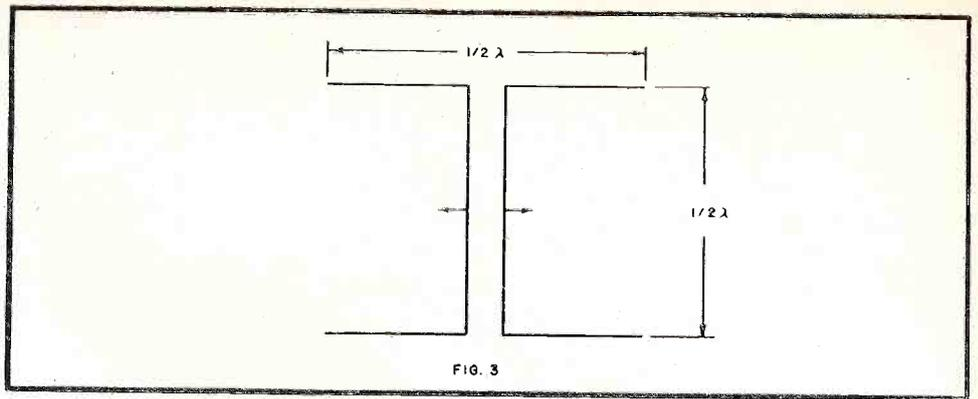

Fig. 3. Lazy "H" antenna with phasing harness.
*Figure 3* illustrates one of the first antennas to appear on the TV market some 6 or 7 years ago. This particular system is popularly known as the Lazy H, and represents a frequency selective system of the half wave variety. With parasitic reflectors the impedance of the individual bays is in the neighborhood of 50 ohms. This antenna exhibits a gain in the neighborhood of 7 db over a simple half wave dipole. Because of the reflector action, pick-up from the back is slight at the design frequency. The gain of this antenna is flat over approximately 4 mc. The figure for gain is based on the assumption of a perfect match between the transmission line and the center impedance characteristic of the array. This is accomplished by using the interconnecting phasing harness as the quarter wave matching transformer.